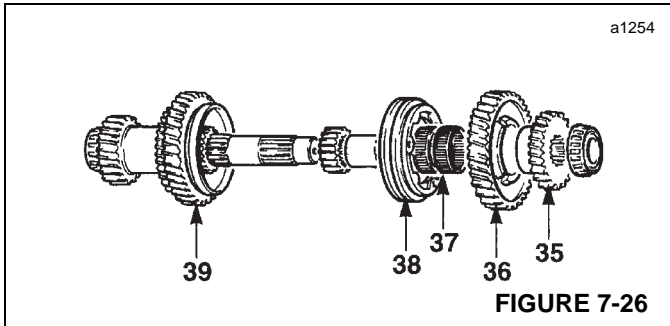

FIGURE 7-26
34. Using a suitable bearing puller, remove bearing (34) from the mainshaft.
35. Remove spacer and bearing (35, Figure 7-26). Illustration shows a gear (35), which is only used on a 4WD transmission. The transmission being serviced is a 2WD transmission.
36. Lift off 1st gear (36).
37. Remove first gear needle roller bearings (37).
38. Lift off 1st/2nd synchro unit (38). Keep synchro cups and cones in correct relationship, i.e. cup and cone as a pair.
39. Pull off 2nd gear, synchro-hub, synchro cup and needle roller bearings (39) from layshaft.